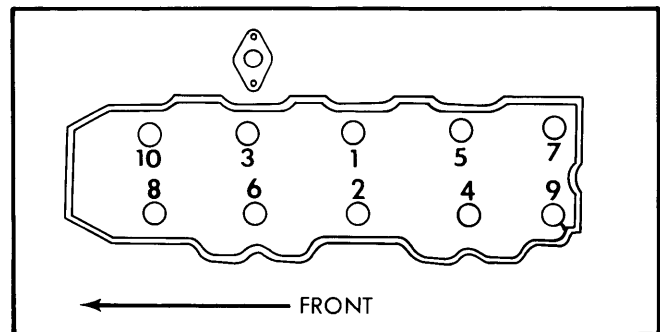

Fig. 1 Cylinder Head Tightening Sequence (Remove in Reverse Sequence)
sprocket retaining bolt and remove sprocket from camshaft, allowing sprocket and chain to rest in cylinder head. Remove chain cover bolt, then remove cylinder head bolts in reverse of tightening sequence (See Fig. 1).
- 3) Pry equally on front and rear of rocker arm assembly and remove same. Lift off cylinder head using car to clear locating dowels. Do not pry between cylinder head and block. To install, reverse removal procedure and note the following: Apply liquid sealer at two front corners of block. Make sure valve timing and clearance is correctly set. Tighten cylinder head bolts in three steps to specified torque and in sequence indicated (See Fig. 1). Set ignition timing statically at 8° BTDC, then reset with timing light.